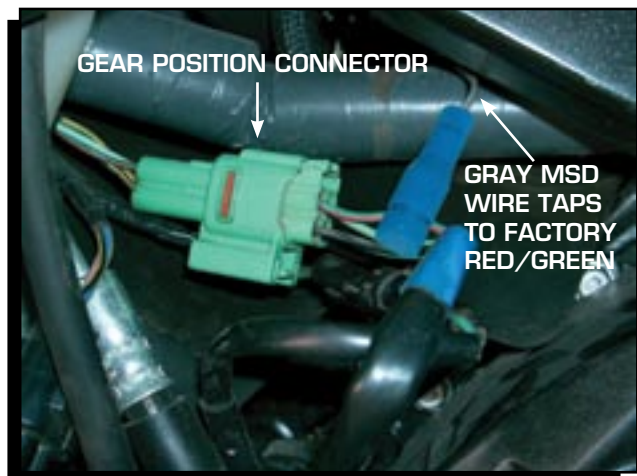

Figure 13 Splicing into the Gear Position Sensor.
4. Locate the Gray 4-pin connector on the left side of the bike. Using the supplied splice connector, splice the Gray MSD wire into the Red/Green wire of the factory Gear Position Sensor (Figure 13).